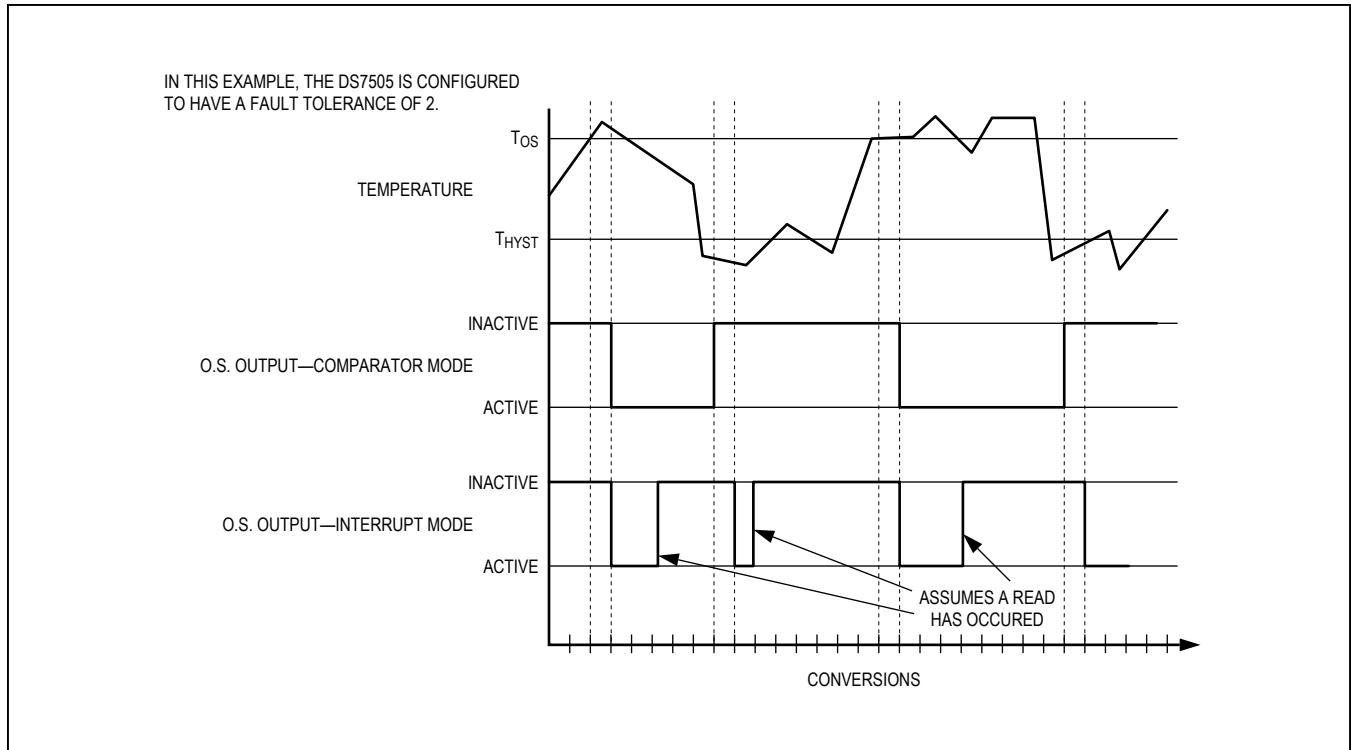

Figure 4. O.S. Output Operation Example
When the thermostat is in comparator mode, O.S. can be programmed to operate with any amount of hysteresis. The O.S. output becomes active when the measured temperature exceeds the T_{OS} value a consecutive number of times as defined by the F1 and F0 fault tolerance (FT) bits in the configuration register. O.S. then stays active until the first time the temperature falls below the value stored in T_{HYST} . Putting the device into shutdown mode does not clear O.S. in comparator mode. Thermostat comparator mode operation with FT = 2 is illustrated in Figure 4.
measured temperature falls below the T_{HYST} value a consecutive number of times equal to the FT value. Again, O.S. can only be cleared by putting the device into shutdown mode or reading any register. Thus, this interrupt/clear process is cyclical between T_{OS} and T_{HYST} events (i.e., T_{OS} , clear, T_{HYST} , clear, T_{OS} , clear, T_{HYST} , clear, etc.). Thermostat interrupt mode operation with FT = 2 is illustrated in Figure 4.